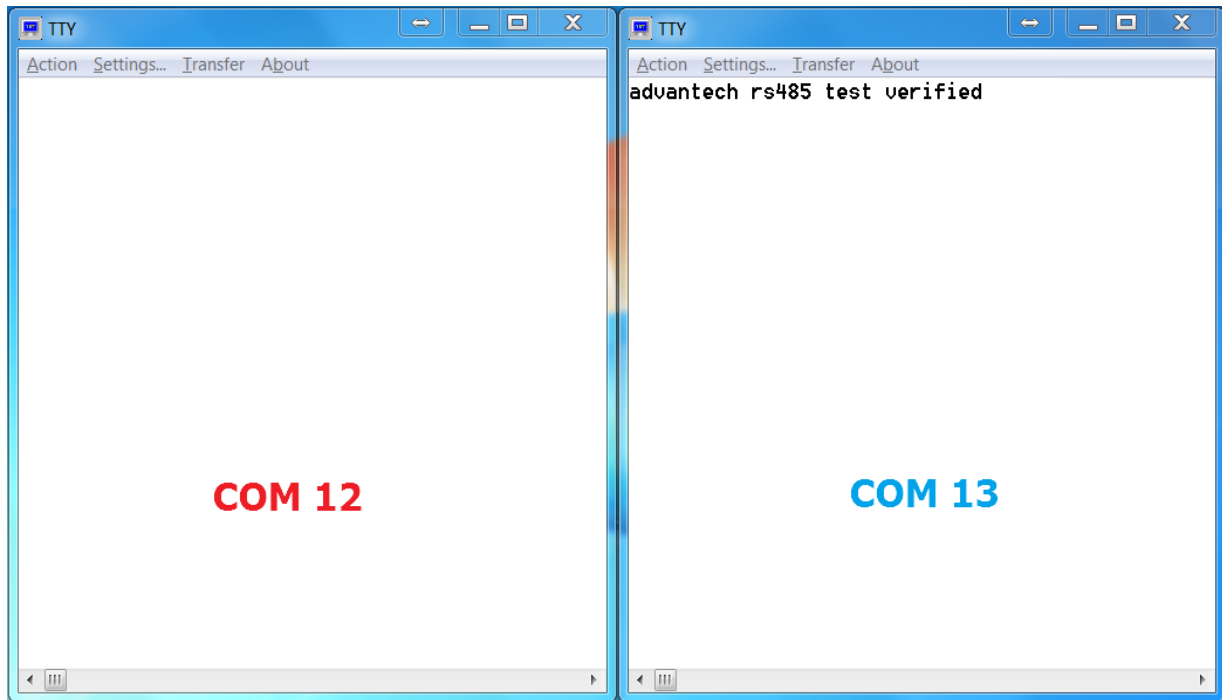

Figure 5. Type words on COM 12 windows
5. User can type word or number with computer keyboard on COM12 windows, and receive data will show up on COM13 windows; Please make sure those two way can receive data (From **COM12** to **COM13**; From **COM13** to **COM12**) as Figure 5 & 6, then that is a successful loop back test with two RS-485 com ports.